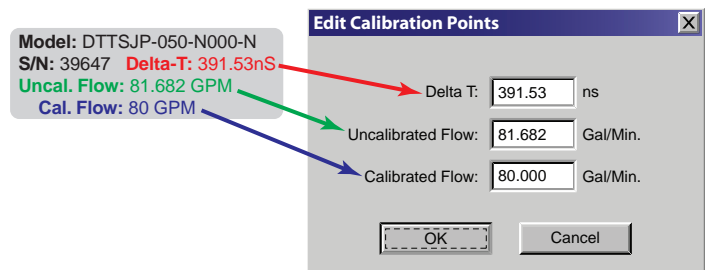

Figure 18: Edit calibration points
7. Enter Delta T, Un-calibrated Flow, and Calibrated Flow values from the DTTS/DTTC calibration label, then click **OK**. See Figure 18.